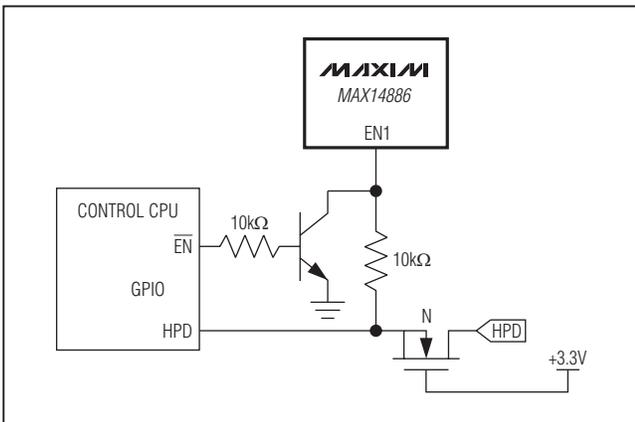

Figure 2. Control Sequence Protection Circuit
**Note:** The monitor sink termination must be present and powered before enabling the device (see the *Control Sequence* section and Figure 2).
The monitor sink termination must be present and powered before enabling the device. A simple circuit can be added to protect the device by forcing hot-plug detection (HPD) to be present before the part is enabled (Figure 2).